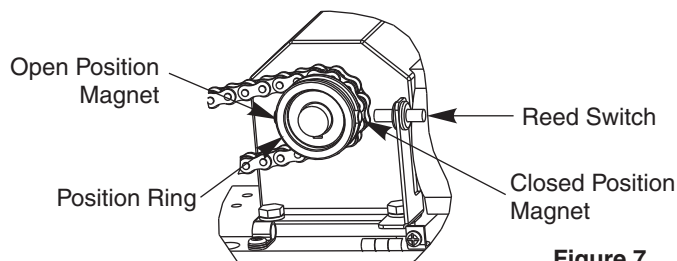

Figure 7
Step 15: Adjust Closing Position Magnet (See Fig. 7) - With door in the closed position, use finger to slide Closed Position Magnet so it aligns directly with the Reed Switch.